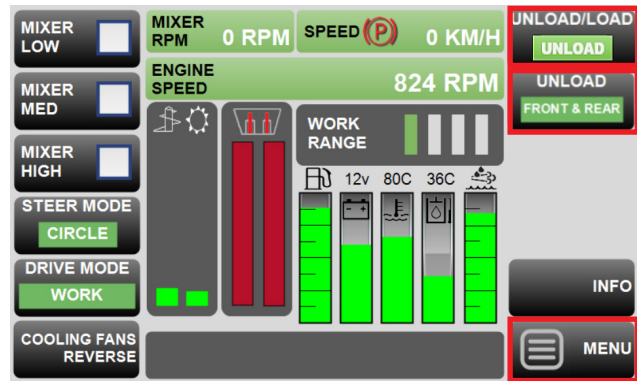

Figure 6: Main Display screen
1. On the Display, press the 'Unload/Load' button and select 'Unload'; see *Figure 6*.
2. Press the 'Unload' button and select 'Front & Rear'; see *Figure 6*.
3. Press the 'Menu' button; see *Figure 6*.